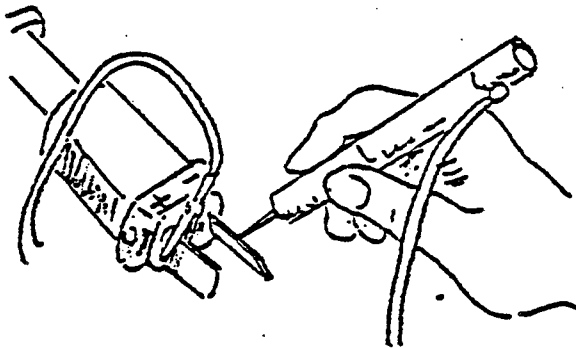

FIGURE 3
- (b) If the circuit in Figure 2 is complete, reverse test light leads as shown in Figure 3. **CIRCUIT SHOULD NOT BE COMPLETE.** If circuit is complete, check DC cord for a "short" between the two wires. More probably, one or both diodes have "shorted". Refer to "Fuse Link Blowing" part (b) for continuity test of diodes.
- (c) If (a) Figure 2 and (b) Figure 3 check good, assume the capacitor is shorted. Remove one wire from a capacitor terminal and place continuity tester clip to one terminal and probe to other. If circuit is complete, capacitor is "shorted" and must be replaced.